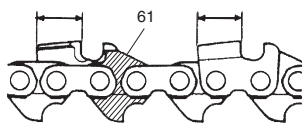

Fig. 46
- 5) Keep all cutters the same length. (Fig. 46)
Do not file or alter the tops of bumper drive links (61). (Fig. 46)